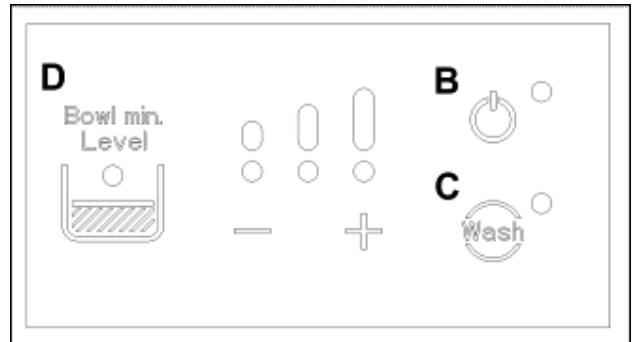

Fig. 78
- When the product level LED D and the power LED B (Fig. 78) are lit with a buzzer sound activated, it means that the product level in the top tank is low and should be refilled; in these conditions the appliance is blocked and only the dispensing system will be activated if necessary until the product level has been restored.